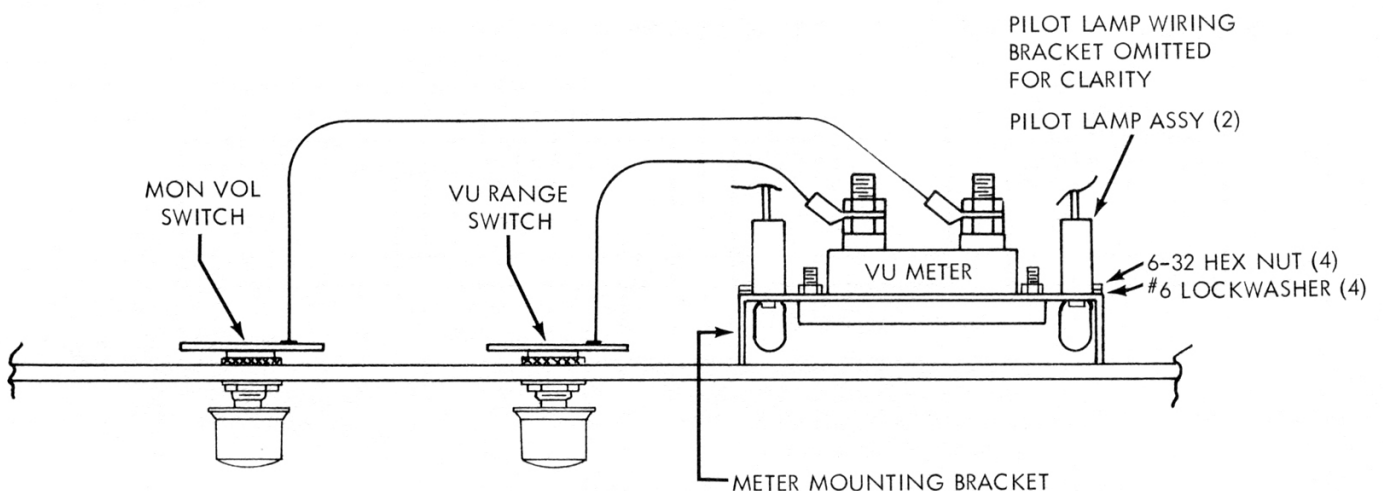

Figure 12. Installation of VU Meter Accessory
- Step 3. Remove four No. 6 nuts and washers securing meter bracket to front panel (see Figure 12).
- Step 6. Locate two VU meter wires on front panel and remove tape from lugs. Attach lugs to VU meter as shown in Figure 12.